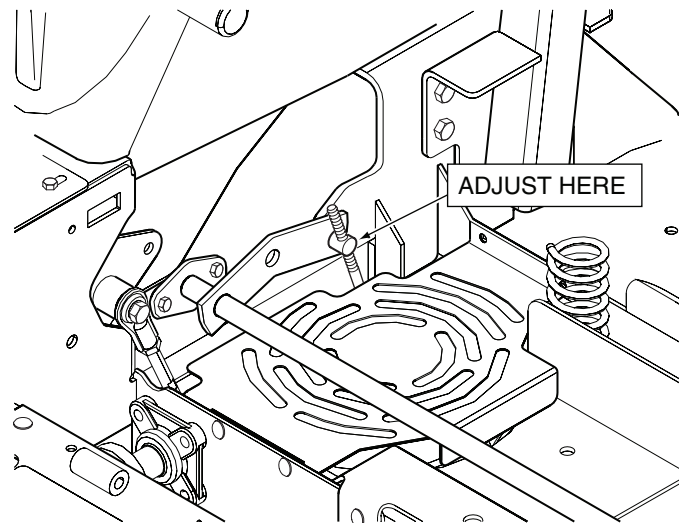

Figure 6-2. Brake Rod Adjustment
4. Remove the cotter pin securing the pivot to the brake control linkage. See Figure 6-2.